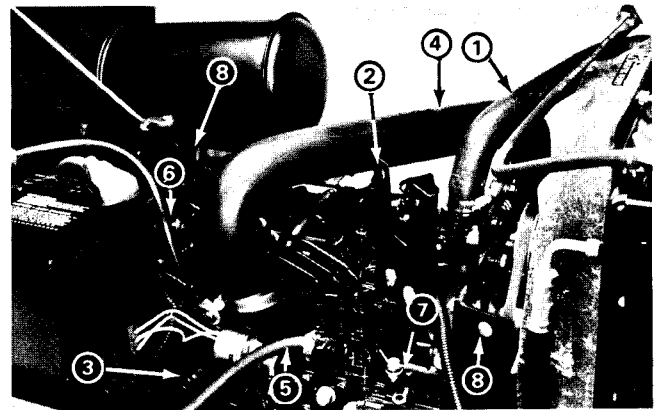

Figure 67
5. Loosen the hose clamps and disconnect the upper radiator hose from the engine and radiator (Fig. 67). Lift the coolant expansion tank from the bracket and put it on top of the radiator.
6. Remove the plug from the cylinder block to drain coolant from the engine (Fig. 67).
7. Loosen the hose clamps and disconnect the air intake hose from the engine and air cleaner (Fig. 67).
8. Loosen the hose clamp and remove the fuel hose from the injector pump (Fig. 67). Plug the end of the fuel line to prevent fuel leakage. Loosen the hose clamp and remove the fuel return hose from the rear fuel injector on the engine.
13. Loosen the cap screw and nut to disconnect the throttle cable from the speed control lever on the engine (Fig. 67). Loosen the clamp and remove the throttle cable and from the engine bracket.
16. Attach a short section of chain (approximately 13 inches (330 mm) between the two lifting holes in the engine brackets (Fig. 67). Connect the hoist or block and tackle chain at the center of the short section of chain. One person should operate the hoist or block and tackle and the other person should help guide the engine out of the chassis. Remove the engine from the chassis. Be careful when removing the engine to prevent damage to the engine, radiator or other parts. Mount the engine in an engine rebuilding stand.
2. Remove the plug from the cylinder block (Fig. 67) to drain the coolant from the head and cylinder block.